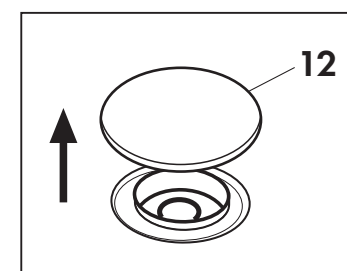

Fig. 4
Put water into the water tank once you have lifted the cap (12) (Fig. 4)